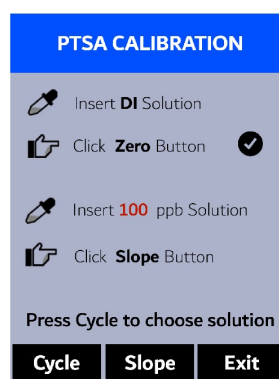

Figure 11.
7. If the calibration succeeds, a checkmark ( **✓** ) and instructions for the slope calibration will appear (Figure 11).